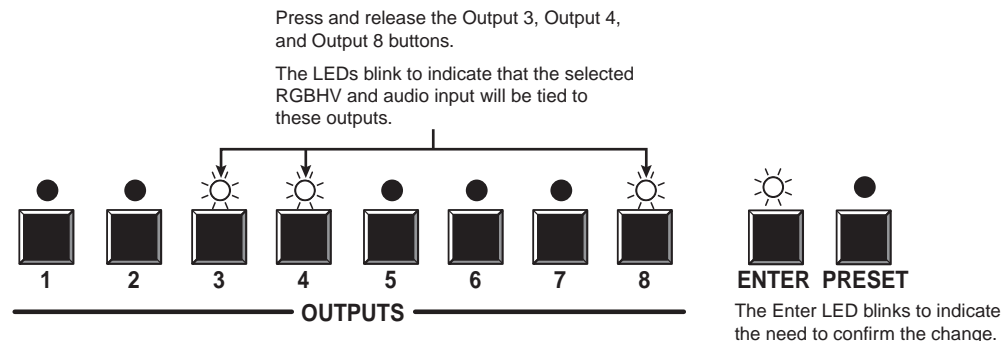

Figure 3-7 — Select the outputs
4. Press and release the output 3, output 4, and output 8 buttons (figure 3-7).